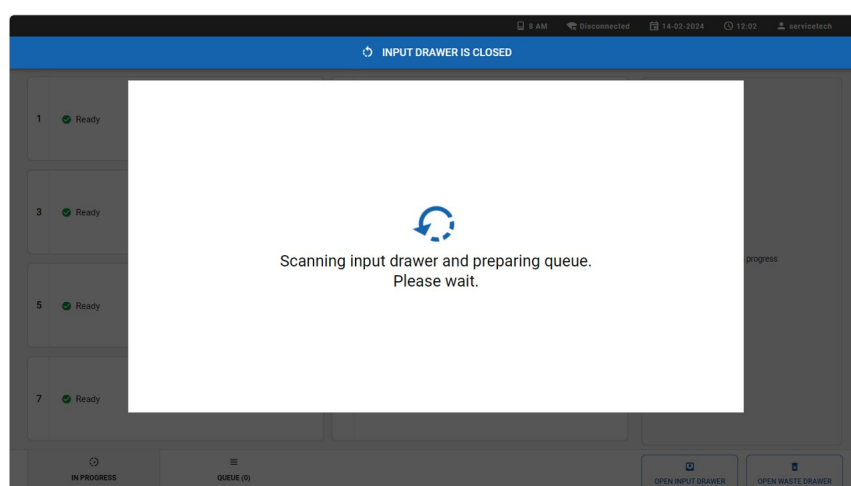

Figure 19. Preparing queue screen.
8. Close the input drawer when all cartridges have been manually scanned and inserted. The system will scan the cartridges and prepare a queue (Figure 19).